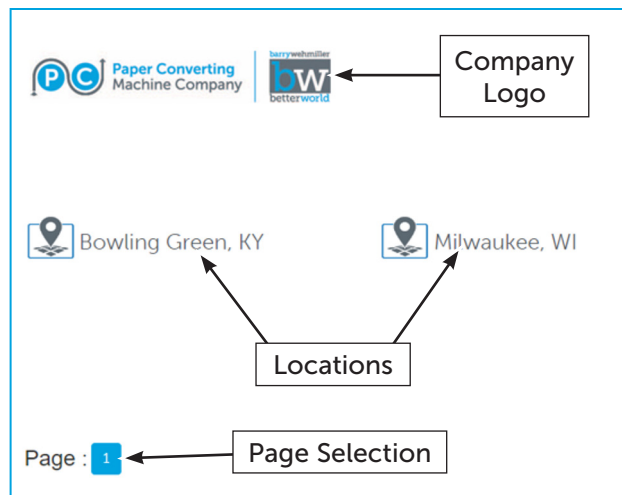

Figure 2: Company Page
3. The Company Page will open, showing your company's logo and the locations of the machines available on the web portal (Figure 2). If there are more locations than can be displayed on one page, pages can be selected at the bottom.